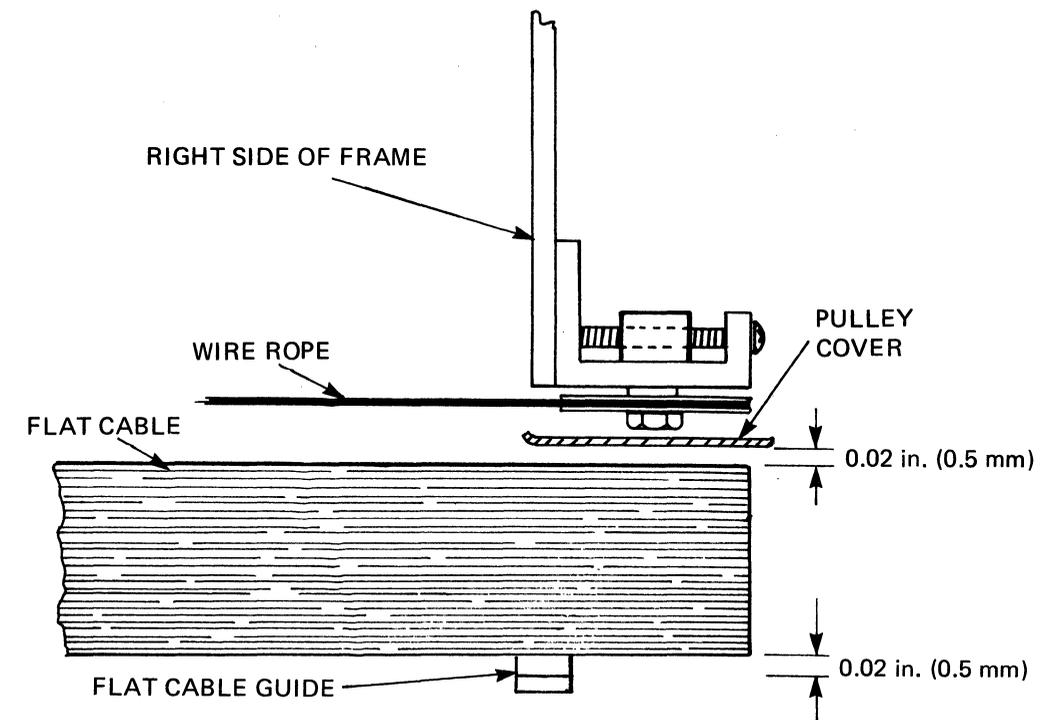

Figure 5-7 Carriage Cable Position
- a. Move the carriage near the right side of the frame and adjust the carriage cable by repositioning it under the cable clamp until the gaps (see Figure 5-7) between the flat cable guide and one side of the cable and the pulley cover and the other side of the cable are more than 0.02 inches (0.5 mm).